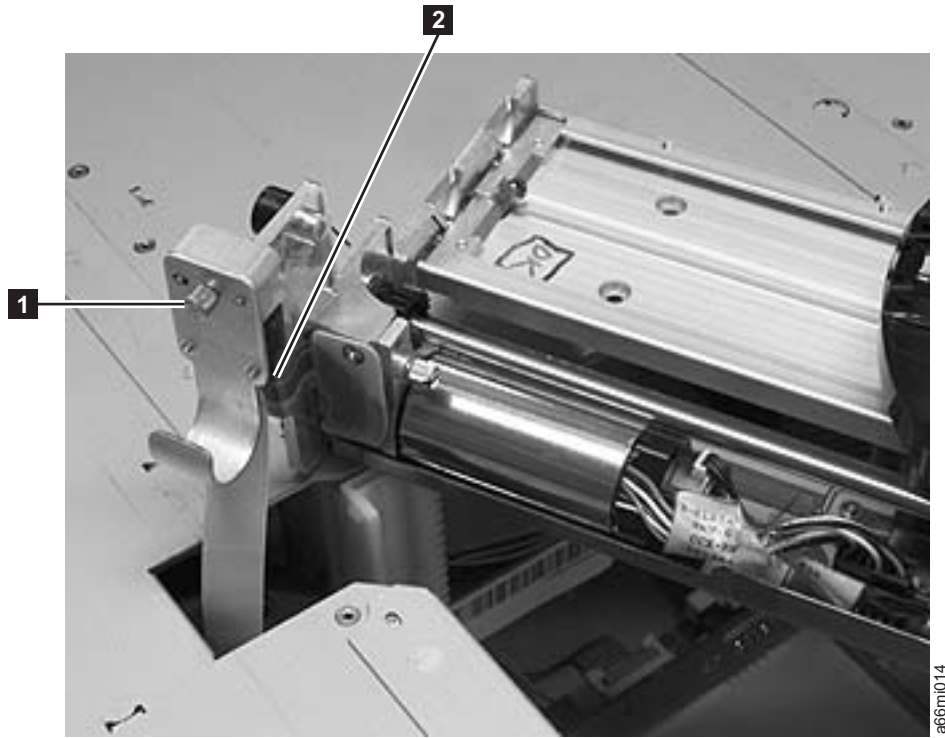

Figure 8-44. Thumb screw securing cable spool
6. Raise the Y-axis/Picker Assembly to the top of the library and carefully lift it out. Be careful not to damage the Cable Spool flat cable (**2** in Figure 8-44 on page 8-48). Set the Y-axis/Picker Assembly on top of the control module and loosen the thumbscrew (**1** in Figure 8-44 on page 8-48) to disconnect the cable spool.
2. Set the Y-axis/Picker Assembly on top of the control module as shown in Figure 8-44 on page 8-48.
5. Tighten the thumb screw to connect the spooler cable to the Y-axis/Picker Assembly (**1** in Figure 8-44 on page 8-48).